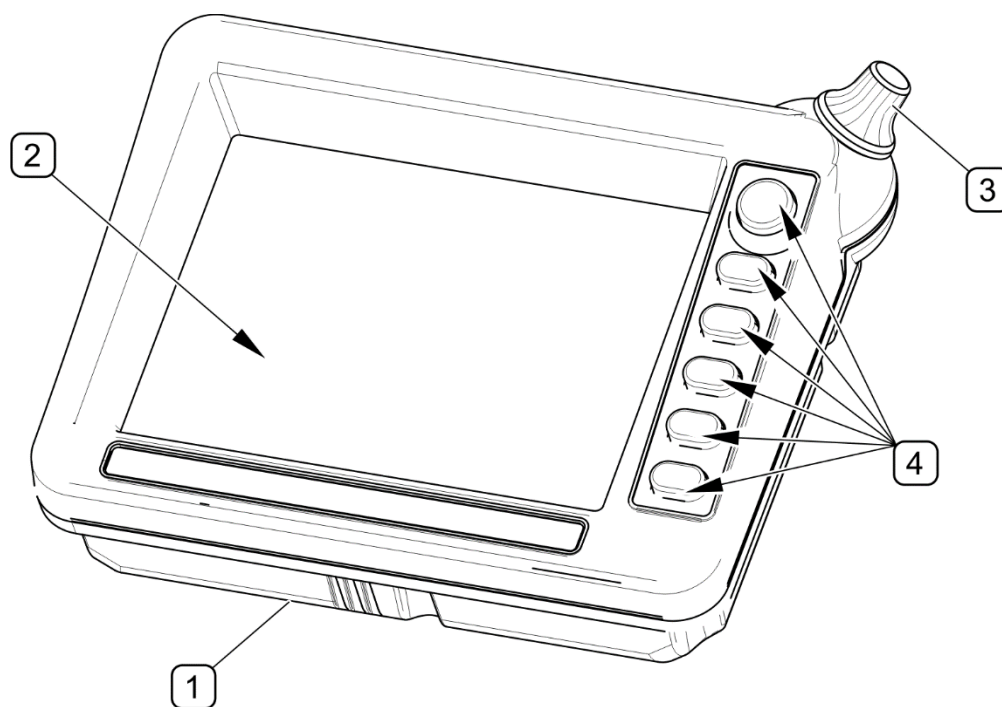

FIG. 4.18 General design of control panel
Control panel (FIG. 4.18) consists of enclosure (1), colour LCD display (2), parameter change knob (3) and six function push-buttons (4).